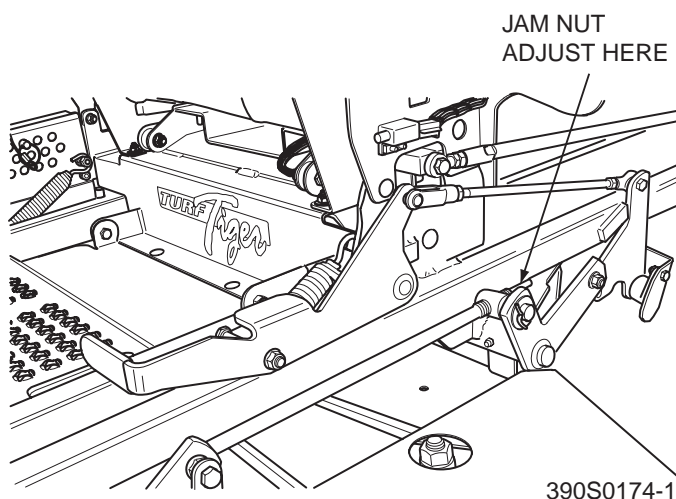

Figure 6-5. Cutter Deck Adjustment
1. Loosen the jam nut on both adjusting rods. (See Figure 6.5)
2. Using a wrench on the jam nut (See Figure 6.5) turn the adjusting rods until the 1/4" forward pitch is obtained on both the RH and the LH side of the cutter deck. Tighten both jam nuts.